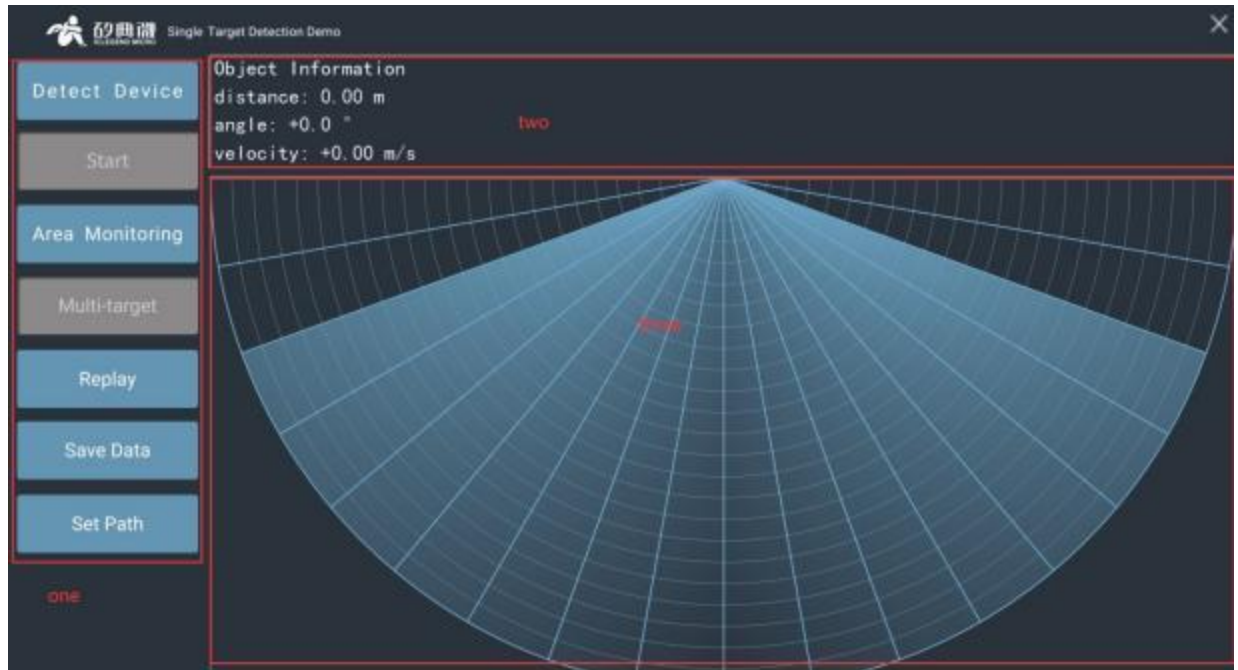

Figure 4-2 Demo Tool Interface
Step 2: Double-click to open the upper computer tool "ICLM_MTT.exe", and the demonstration tool interface will popup, as shown in Figure 4-2.